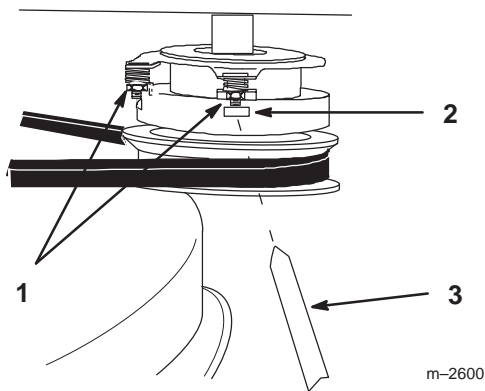

Figure 43
1. To adjust clutch, tighten or loosen lock nuts on flange studs (Fig. 43).
2. Check adjustment by inserting feeler gauge thru slots next to studs (Fig. 43).